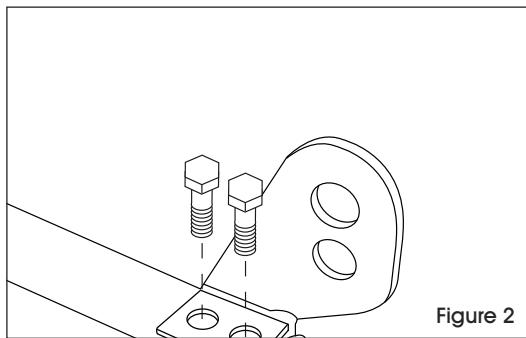

Figure 2
4. Secure bracket to hopper lip using 2 bolts and 2 lock nuts. (See Figure 2)